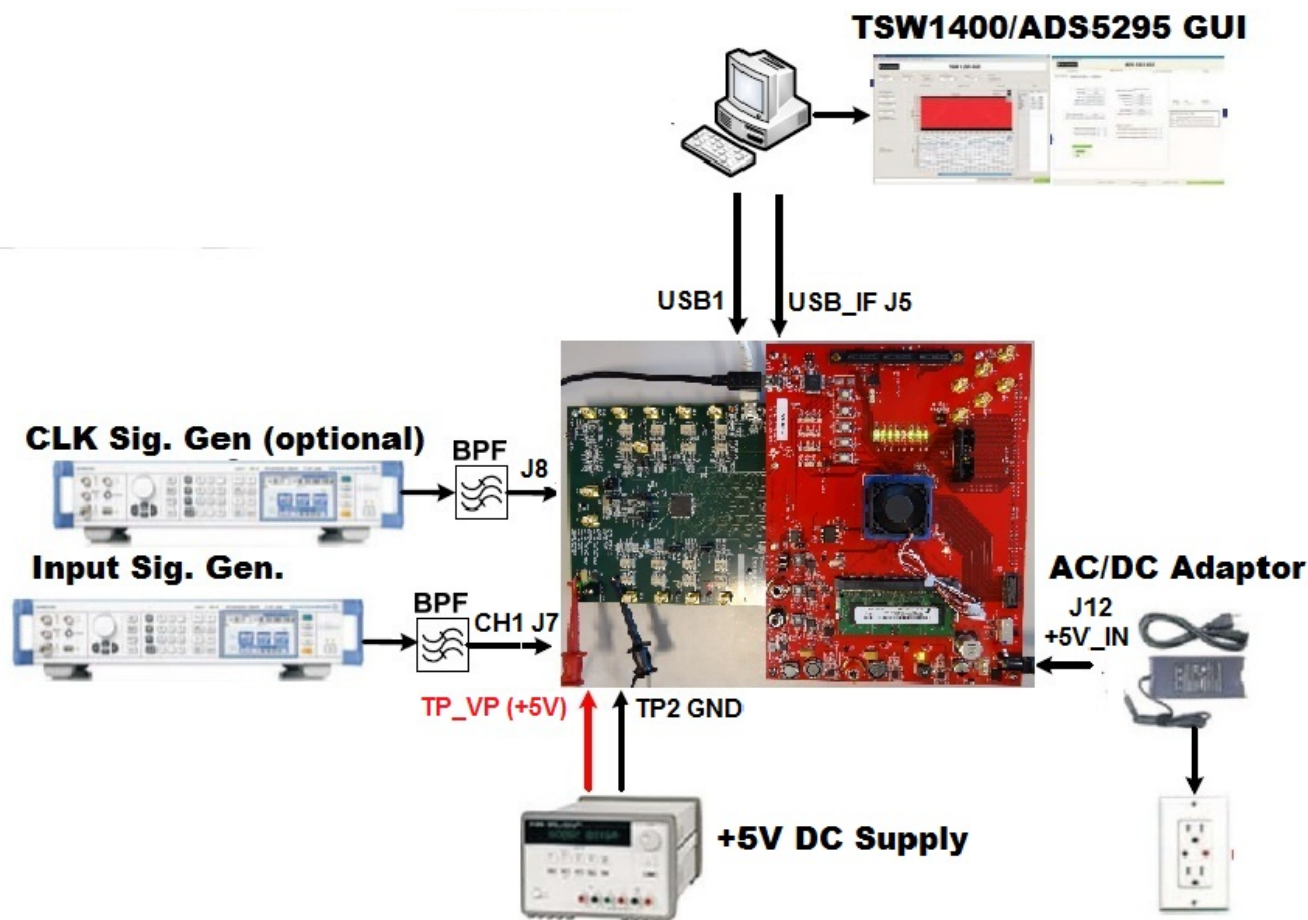

Figure 1. Evaluation Setup
Figure 1 shows an overview of the evaluation setup that includes the ADS5295EVM evaluation module (EVM), TSW1400EVM, external equipment, personal computer (PC), and software requirements.